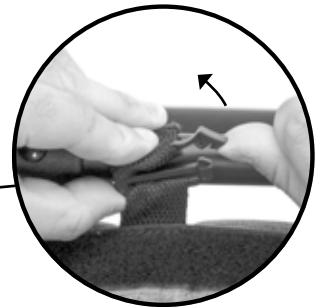

Fig. 1B
- Place each strap over wagon frame and use finger tip to pull buckle open. While buckle is open, feed strap through and release finger from clip to secure. Repeat for all 4 buckles (Fig. 1B).